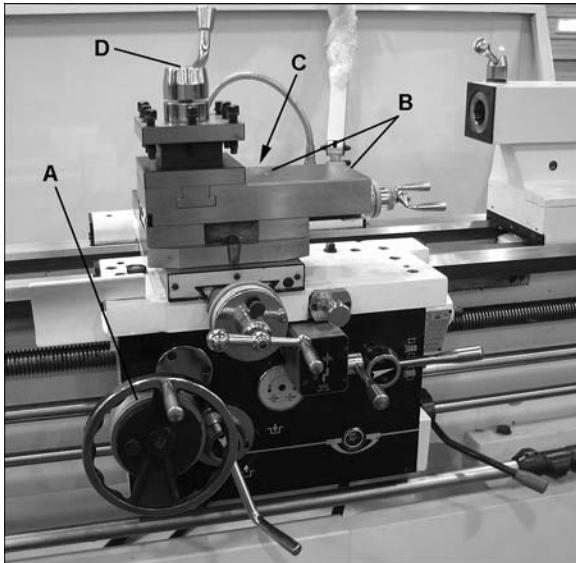

Figure 12
Saddle – Daily lubricate ball oiler (A, Figure 12) on handwheel shaft with SAE 20W.
6. **Compound Rest** – Daily lubricate two ball oilers (B, Figure 12) on top of compound rest with SAE 20W.
7. **Cross Slide** – Daily lubricate one ball oiler (C, Figure 12 – opposite side) with SAE 20W.
8. **Toolpost** – Daily lubricate one ball oiler (D, Figure 12) with SAE 20W.